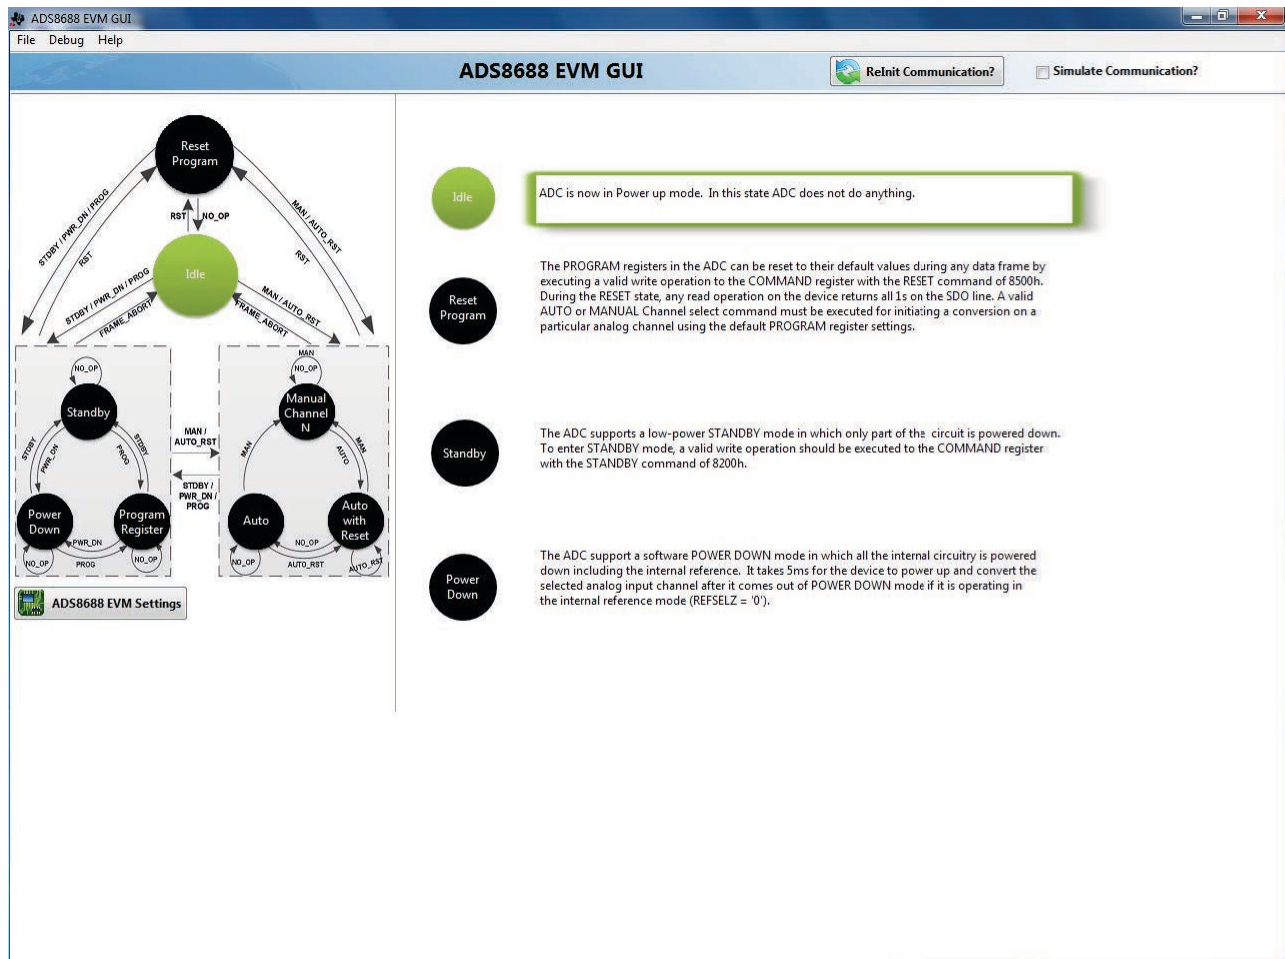

Figure 16. Start Page of the ADS8688EVM GUI
- Step 3. Verify that the software detects the ADS8688EVM. The GUI identifies the EVM that is connected to the controller and loads the settings. After the settings are loaded, the ADS8688EVM GUI is displayed on the top of GUI window; see Figure 16.